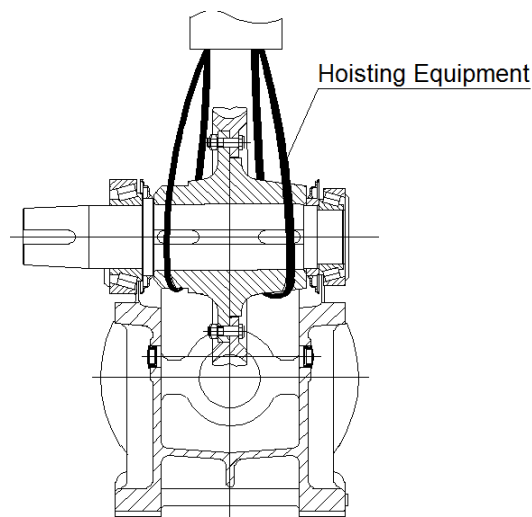

Figure 47 Output shaft hoisting
7. Hoist the output shaft assembly from the bottom housing, and lower onto stands. See Figures 47 and 48.